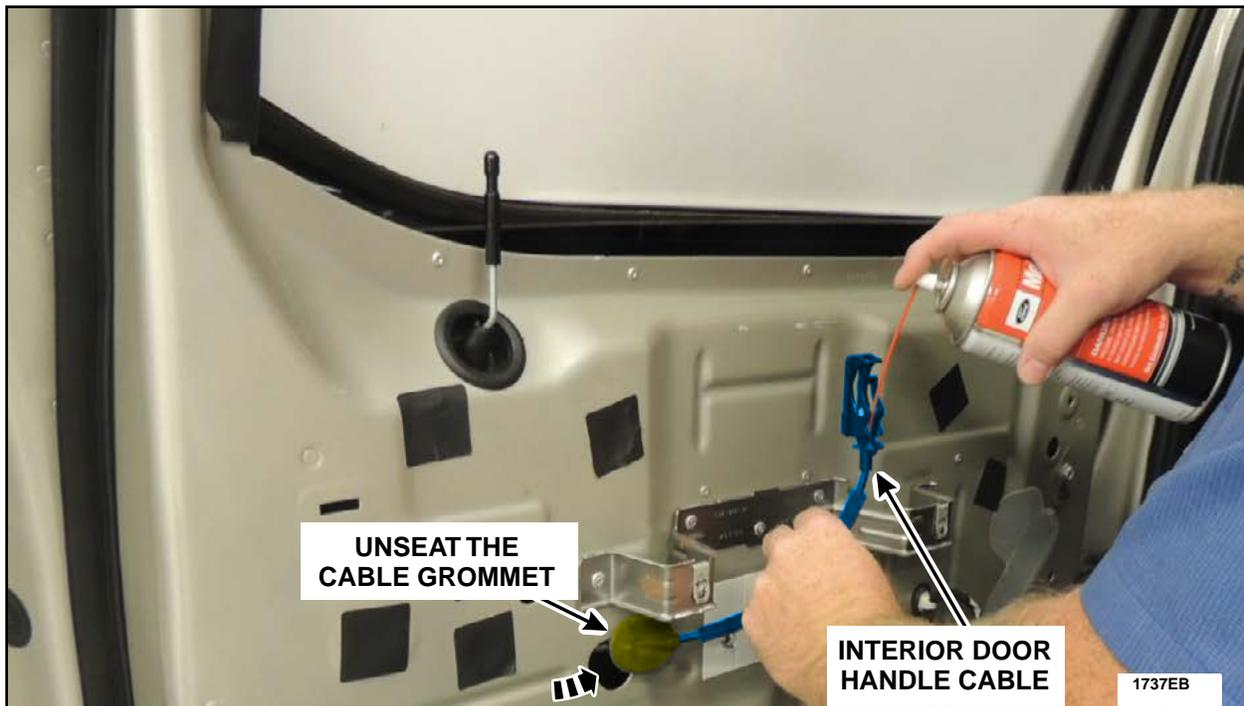

FIGURE 88
15. Unseat the interior door handle cable rubber grommet and while holding the end of the interior door handle cable in an upward position, spray Motorcraft® XL-6 Lubricant for five seconds down into the cable. See Figure 88.